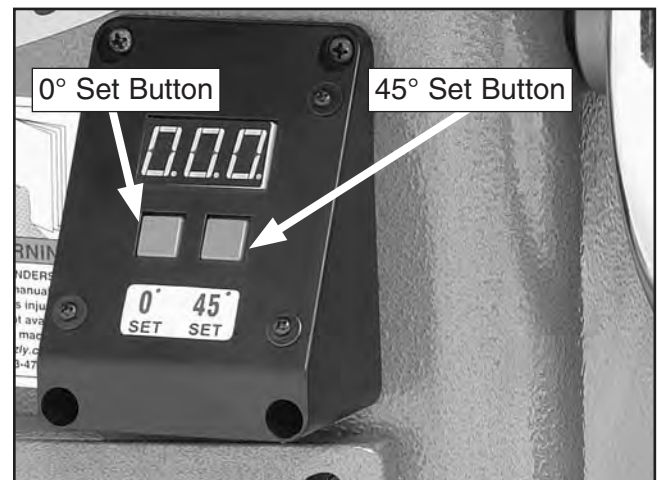

Figure 139. Digital readout.
2. Move the blade angle to 90° and press the 0° SET button (**Figure 139**) for several seconds until the readout displays 0.00, or move the blade angle to 45° and press the 45° SET button until the readout displays 45.0.